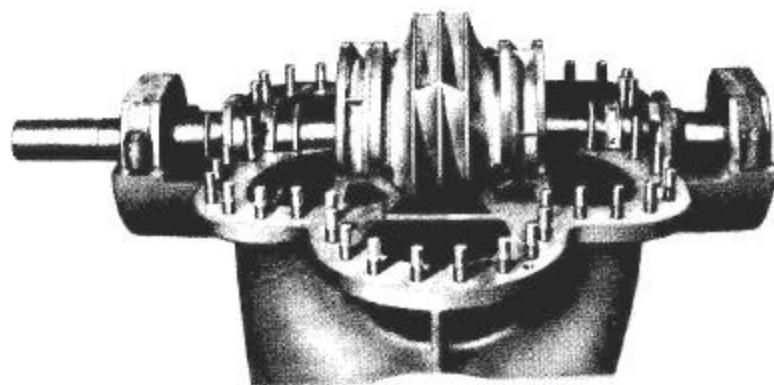

Fig.26 – Pump with upper casing removed, available for inspection
Close suction (if any) and discharge valves. Drain pump removing threaded plugs (903.3) and (903.1). Close valves and disconnect auxiliary pipings, manometers and vacuometers (if any). Remove coupling guard (if any). Disconnect coupling sleeve of driver. Loosen nuts (920.4) and gland cover (452) of its studs (902.4), displacing into bearing direction. Loosen nuts (920.2), (920.3) and (920.5), (if any). Tighten nuts (920.6) to extract both guide pins (560.1). Separate upper casing (105.2) from lower casing (105.1) tightening extractor bolts uniformly (901.1). Pull extractor bolts back to not hinder during assembly. Pass the string around each eyebolt of upper casing and lift it. Thereafter pump inside is available for inspection. See fig. 26